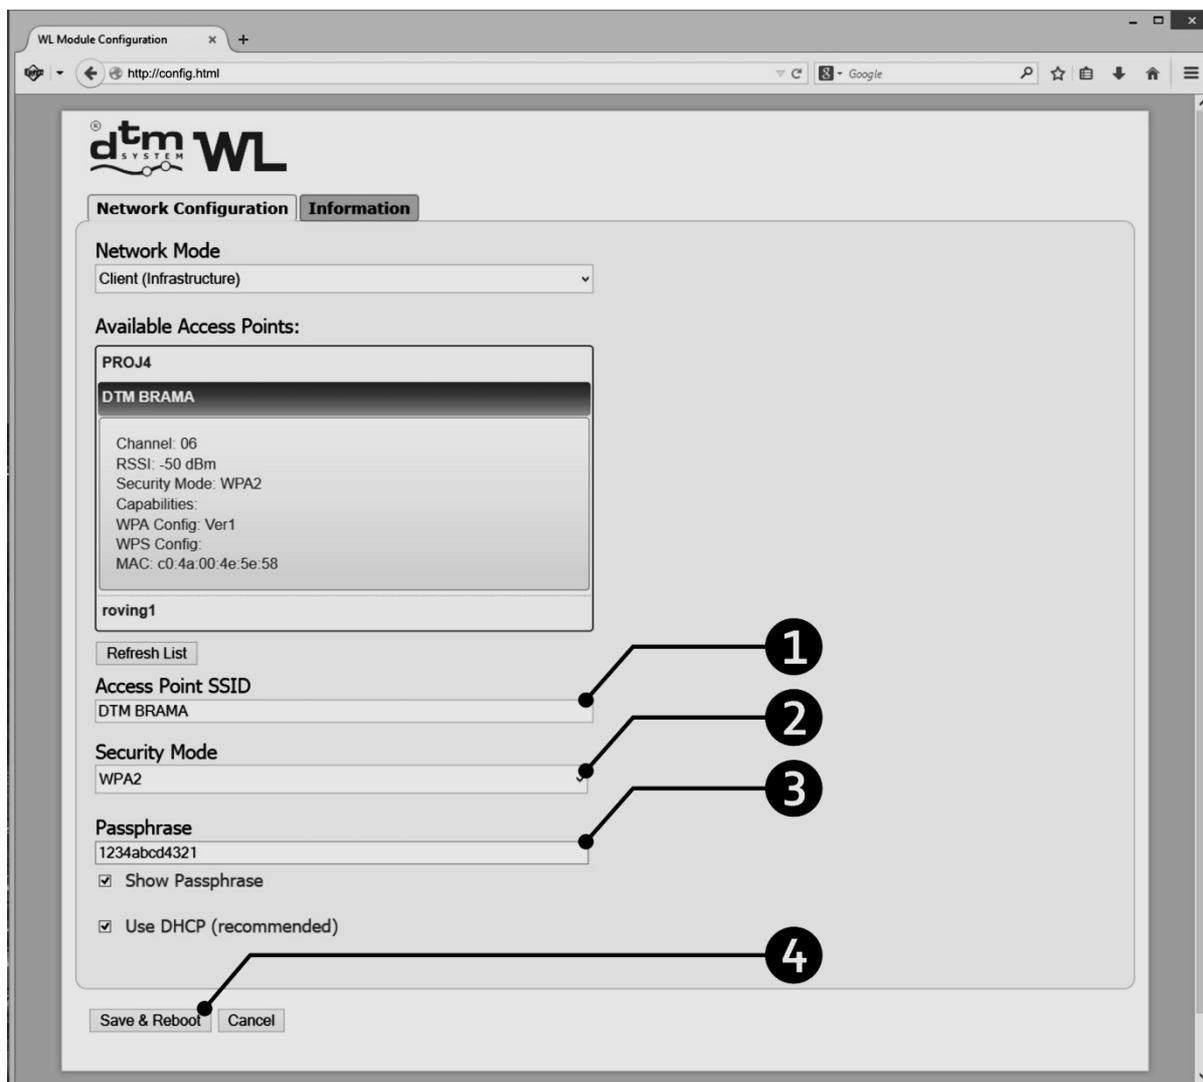

Fig. 7 WL card Configuration panel with chosen network and given password.
- Wi-Fi name - AccesPoint SSID, (pos.1, fig.7).
- encryption mode - Security Mode, (pos.2, fig.7).
- **Step 7:** Enter Passphrase, (pos.3, fig.7).
- **Step 8:** If all textboxes are completed correctly click 'Save & Reboot' button (pos. 4, fig. 7). Card that is correctly configured should establish the connection with the router after the restart.